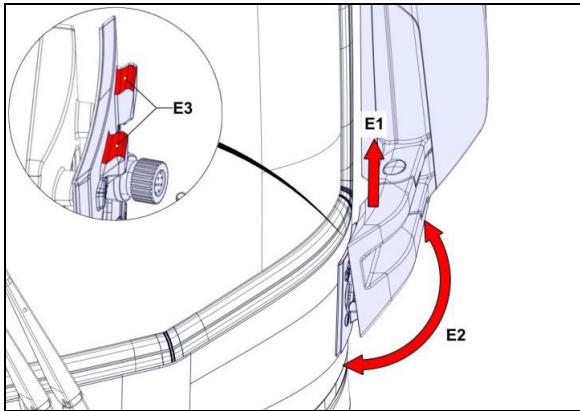

FIGURE 102
1. Remove the black plastic cap (Figure 102).
2. Loosen the clamping screw (do not remove) so that the mirror unit can be lifted from the mounting plate (Figure 102).